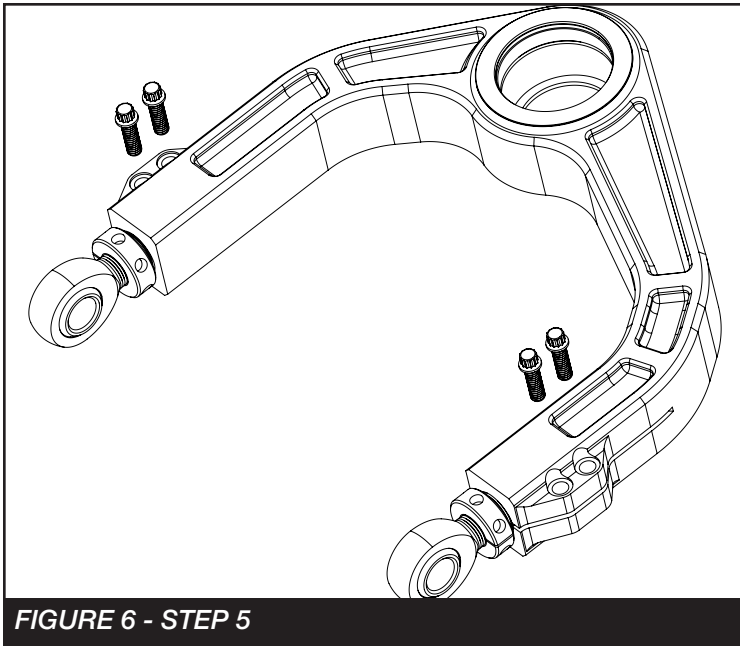

FIGURE 6 - STEP 5
5. Install the supplied 5/16 x 1"-12 point bolts to lock the rod ends and adjuster sleeve in place. Torque to 25 ft-lbs. **SEE FIGURE 6**